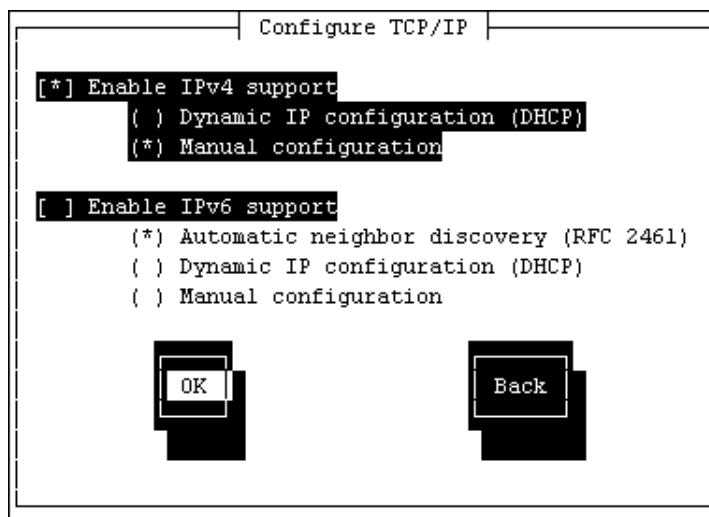
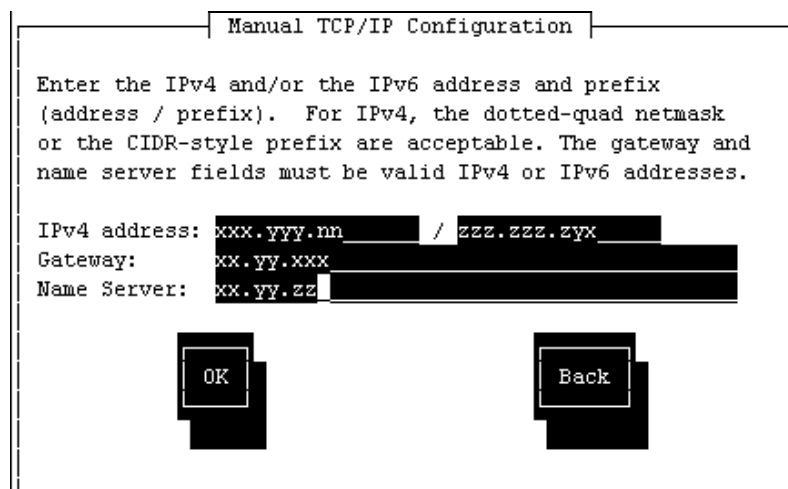

Figure 8-11 TCP/IP configuration panel
Figure 8-12 TCP/IP configuration of IP address, gateway, and name server
6. To configure DHCP, select either IPv4 or IPv6 support and then Dynamic IP configuration (DHCP) from the TCP/IP window. Then select **OK**. See Figure 8-11 on page 346 for more details and skip steps 7 and 8.
As an example, if you wish to configure static IP parameters with IPv4 support, configure the TCP/IP parameters and **Enable IPv4** support, then select **Manual configuration** and disable **Enable IPv6 support** as shown in Figure 8-11, and configure the device as shown in Figure 8-12 on page 346.
7. In the next panel, configure the LPAR's IPv4 address, subnet mask, gateway, and name server. An example configuration is shown in Figure 8-12
17. Press **OK** on the Network Configuration panel. The default is fine because this was already set up in Figure 8-12 on page 346.